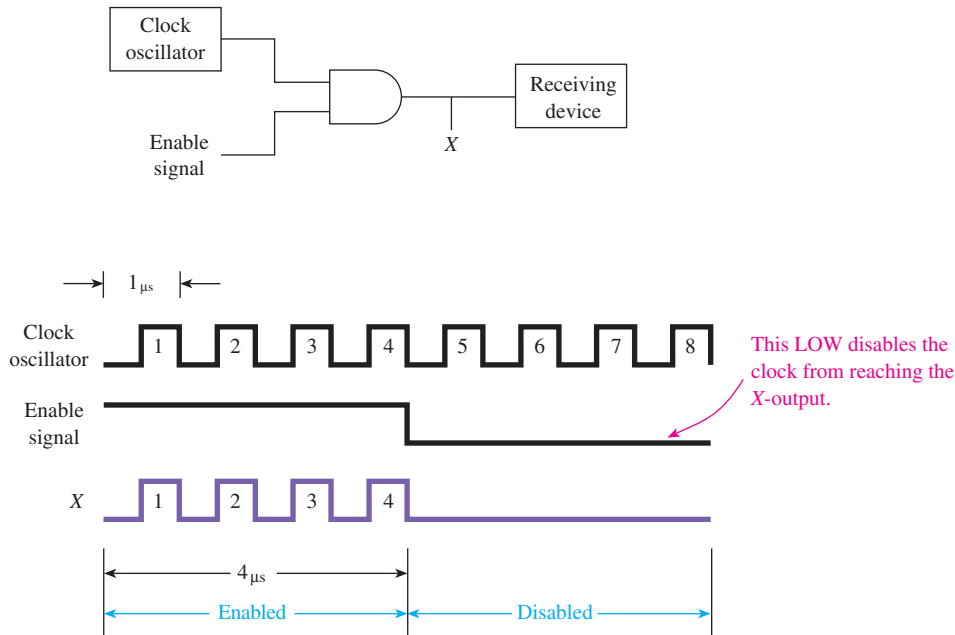
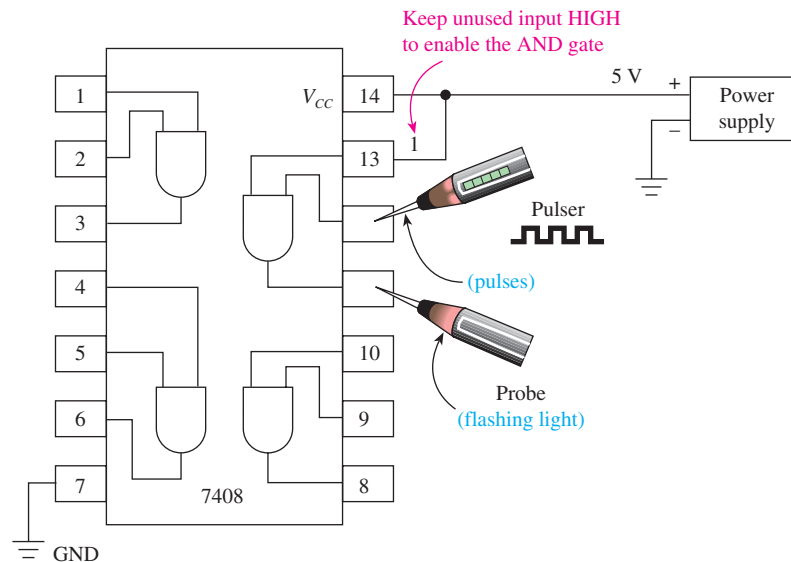

Figure 16 Using an AND gate to enable/disable a clock oscillator.
Figure 24 Connections for troubleshooting one gate of a quad AND IC.
The clock frequency of 1 MHz converts to $1\ \mu\text{s}$ ($1/1\ \text{MHz}$) for each clock period. Therefore, to transmit four clock pulses, we have to provide an *enable* signal for $4\ \mu\text{s}$. Figure 16 shows the circuit and waveforms to *enable* four clock pulses. For the HIGH clock pulses to get through the AND gate to point X, the second input to the AND gate (enable signal input) must be HIGH; otherwise, the output of the AND gate will be LOW. Therefore, when the enable signal is HIGH for $4\ \mu\text{s}$, four clock pulses pass through the AND gate. When the enable signal goes LOW, the AND gate *disables* any further clock pulses from reaching the receiving device.
The IC AND gate in Figure 24 is suspected of having a fault and you want to test it. What procedure should you follow?
Solution: First you apply power to V_{CC} (pin 14) and GND (pin 7). Next you want to check each AND gate with the pulser/probe. Because it takes a HIGH (1) on *both* inputs to an AND gate to make the output go HIGH, if we put a HIGH (+5 V) on one input and pulse the other, we would expect to get pulses at the output of the gate. Figure 24 shows the connections to test one of the gates of a quad AND IC. When the pulser is put on pin 12, the light in the end of the probe flashes at the same speed as the pulser, indicating that the AND gate is passing the pulses through the gate (similar in operation to the clock enable circuit of Figure 16).